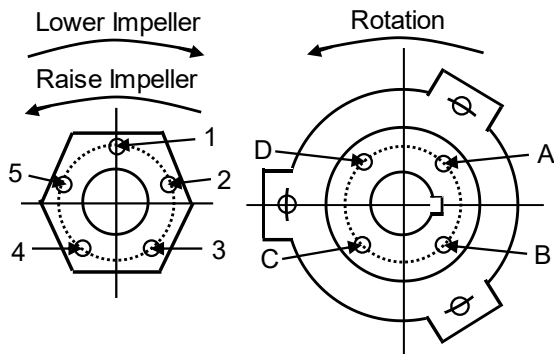

Figure 13
- Align hole "5" in the adjusting nut and hole "D" in the driver clutch, (See Figure 13) or similar holes are in like position. If care is exercised, this will give an initial impeller clearance of 0.001" to